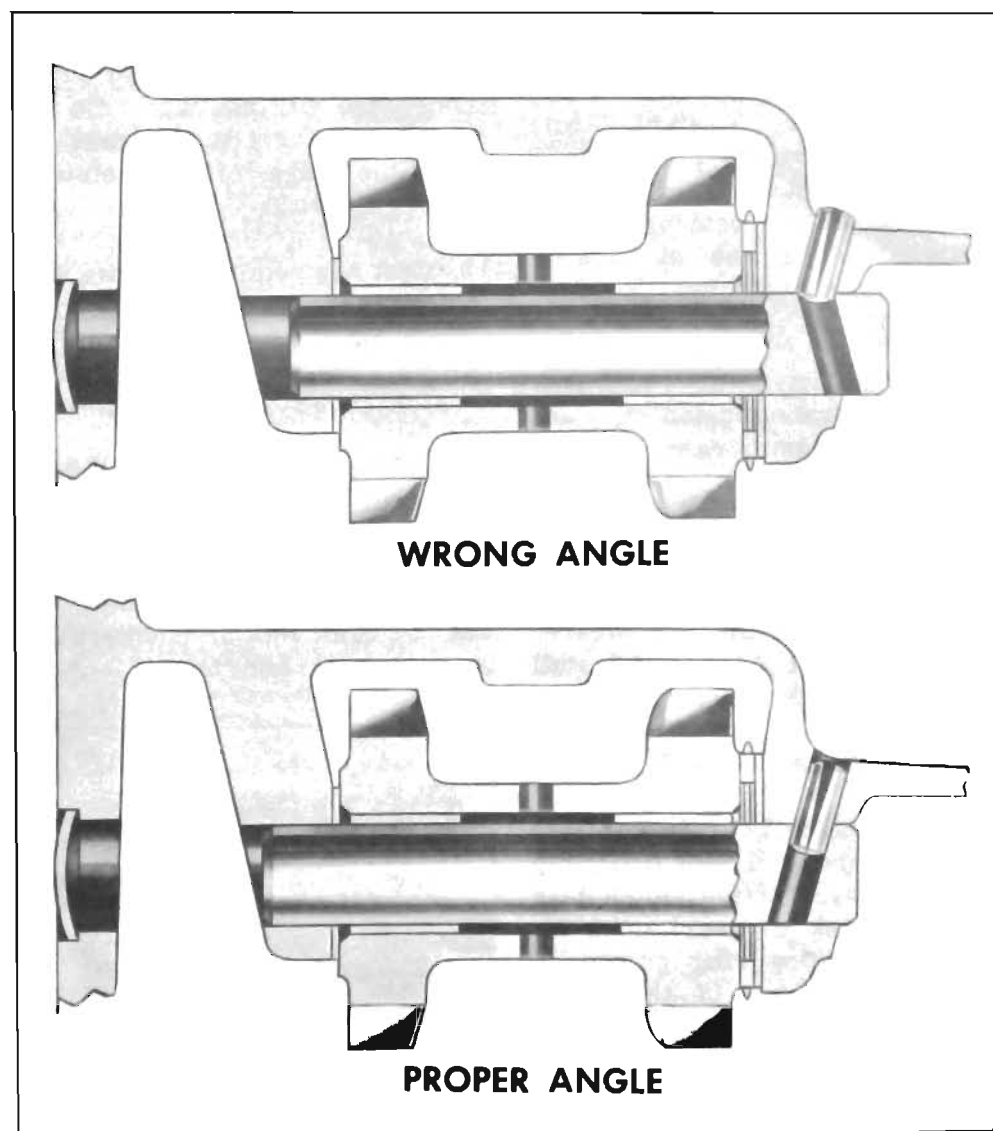

Figure 4-27—Reverse Idler Gear
1. Coat reverse idler thrust-washers and the thrust bearing with grease and install as shown in Figure 4-27. Coat bushings with transmission lubricant.
3. Install the idler shaft, making sure the lock pin hole in the shaft lines up with the hole in the case at the same angle. See Figure 4-27.